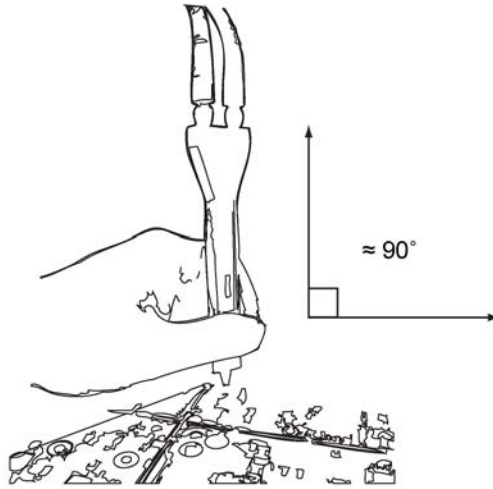

Figure 2 Proper Handling Technique
- Hold the probe perpendicular to the device under test as shown in Figure 2 on page 8. Probing angles greater than 15° from perpendicular will likely damage the tips over time.